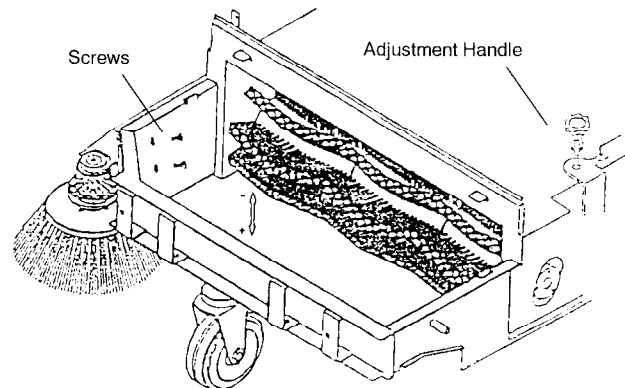

FIG. 4.
1. The side brush is adjusted by loosening two screws. (Figure 4)
2. Loosen the knurled lock nut below the adjustment handle and turn handle in the direction desired (counterclockwise to increase pressure). (Figure 4)